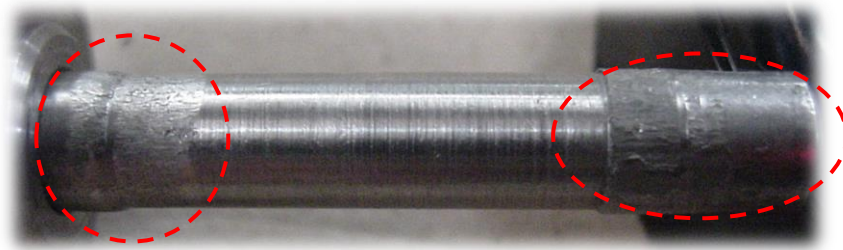

Figure 31: Example of Severe Wear on a Disk Stem
5. Check the portion of the disk stem that slides inside the adjustment screw bore. Verify that its surface is smooth. The surface must not have severe wear. See Figure 31 for an example.